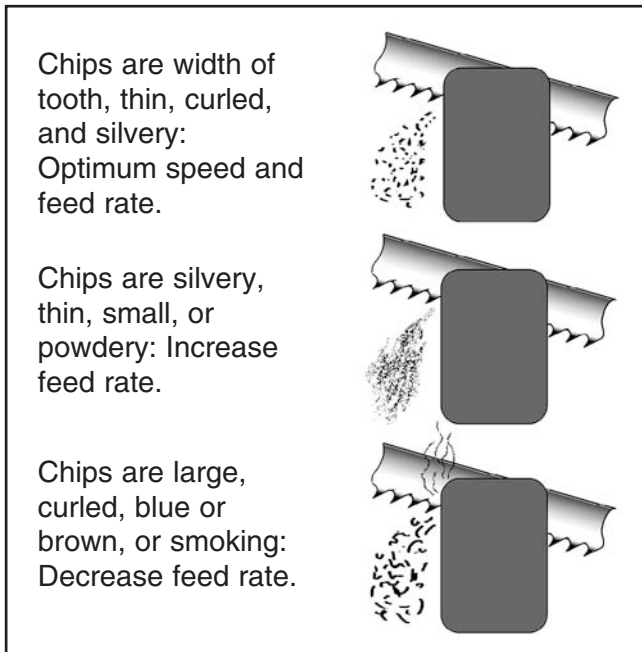

Figure 30. Reading chip characteristics.
- When cutting metal, pay attention to the characteristics of the chips when cutting—they are good indicators of proper blade speed and feed rate. **Figure 30** shows the basic chip characteristics and what they mean.